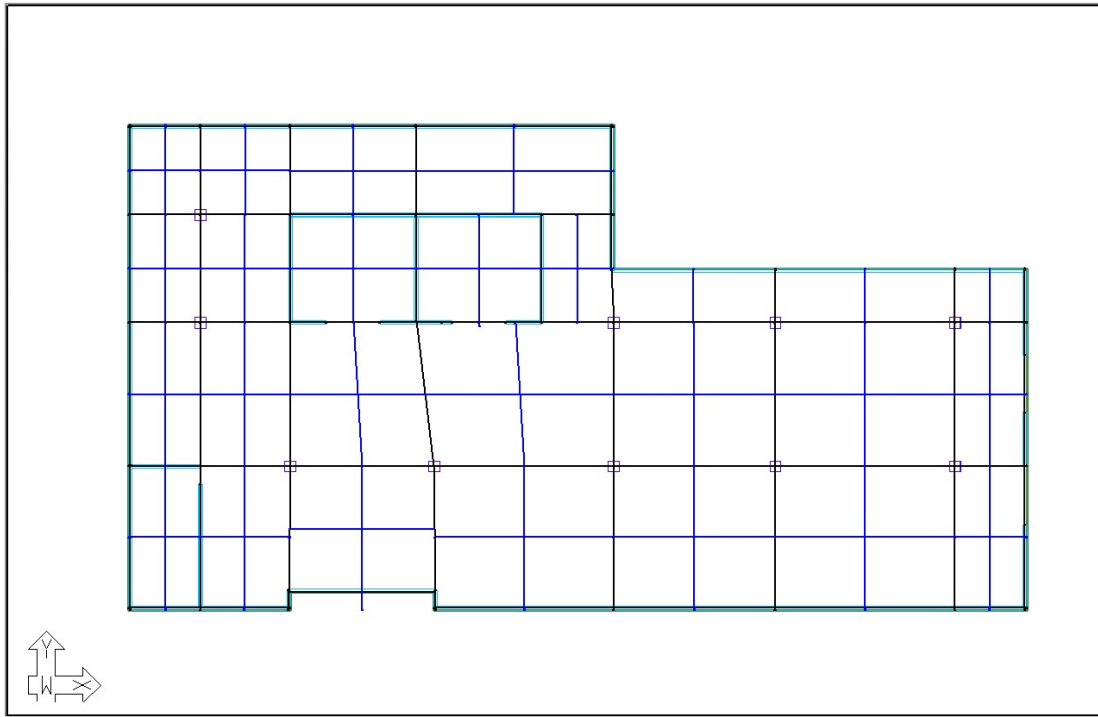

Figure 4.1-5
- Click on the **Create Middle Strips** button to create the middle strips support lines. The middle strip support lines initially will be shown in blue as seen in **Figure 4.1-5**.